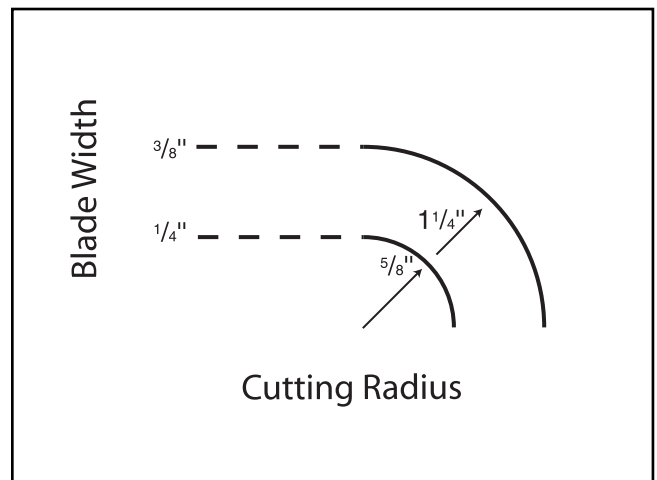

Figure 36. Determining correct blade width for cutting various curve sizes.
Refer to Figure 36 on page 29 to determine the best blade for cutting various curves.
- Curve Cutting — Use the chart in **Figure 36** to determine the correct blade for curve cutting. Determine the smallest radius curve that will be cut on your workpiece and use the corresponding width blade.